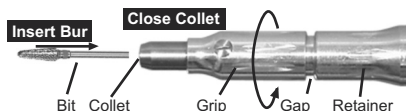

Figure 3
3. Close collet by turning grip 1/4 turn as shown in *Fig. 3*